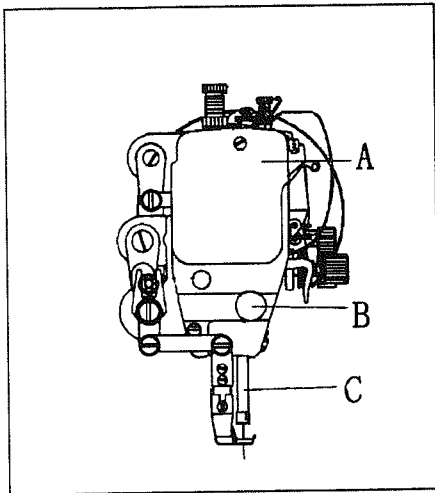

Fig. 18
16. TIME NEEDLE TO ROTATING HOOK (Fig.18,19,20,21)
A. Adjusting the needle position (See Fig.18)
- 1) Turn balance wheel by hand to bring Needle Bar (C) to the lowest position of its stroke.
- 2) Remove rubber plug from Face Plate (A).
- 3) Loosen Set Screw (B) of needle bar adaptor.
- 4) Move Needle Bar (C) vertically to adjust needle timing.
- 5) After the adjustment, tighten Set Screw (B) and put in the rubber plug. The standard needle timing (See Fig.18) is to align Timing Mark (B) on the needle bar and the bottom of Needle Bar Bushing (A) and meanwhile align the Inner Surface (E) of the hook and the center of Needle Eye (D) when the needle bar gets down to its lowest position.